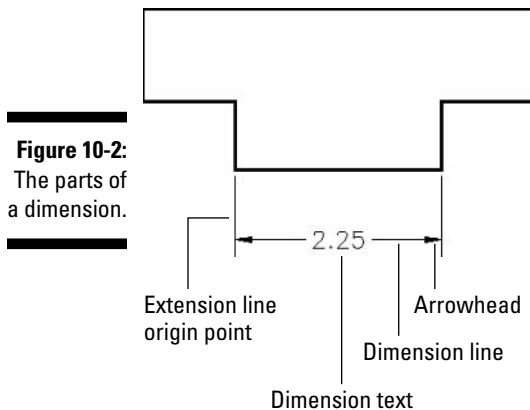

Figure 10-2:
AutoCAD LT uses the names shown in Figure 10-2 and I describe in the following list to refer to the parts of each dimension:
the dimension lines (see Figure 10-2), but you can change those settings to cause the text to appear in a different location — riding above an unbroken dimension line as shown in Figure 10-1, for example. See the section “Adjusting style settings,” later in this chapter, for instructions.
- ✓ **Dimension arrowheads:** The dimension arrowheads appear at the ends of the dimension lines and clarify the extent of the dimensioned length. AutoCAD LT’s default arrowhead style is the closed, filled type shown in Figure 10-2, but you can choose other symbols, such as tick marks, to indicate the ends of the dimension lines. (Don’t get ticked off, but LT calls the line ending an *arrowhead* even when, as in the case of a tick mark, it doesn’t look like an arrow.)